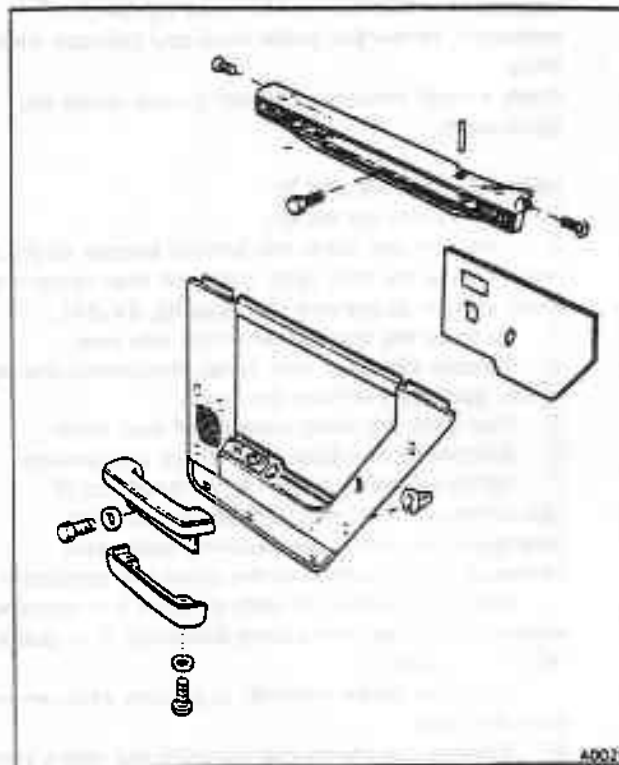

Fig. S4-24 Door trim
Door trim - To remove (see fig. S4-24)
Door trim - To fit (see fig. S4-24)
2. Unscrew and lower the bottom section of the arm rest. Release the step lamp bulb unit then remove the lower section of the arm rest (see fig. S4-24).